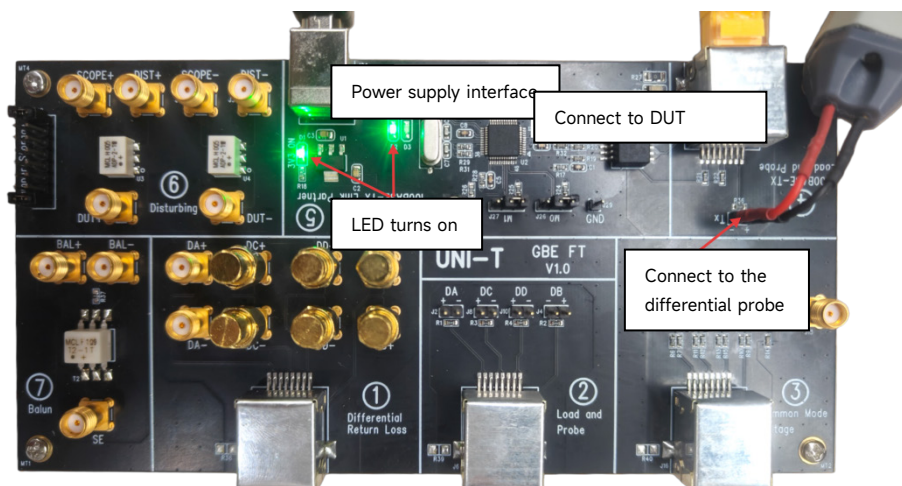

Figure 2-1 100Base-Tx Test Environment Setup
Set up the test environment as shown in Figure 2-1. Use the provided 15 cm network cable to connect the DUT to the J25 interface in Zone ④ of the fixture. Insert the oscilloscope's differential probe into the two pins of J30, also in Zone ④. Then, connect any USB port on the oscilloscope to the USB Type-B port in Zone ⑤ of the fixture using the supplied USB cable to power the fixture.